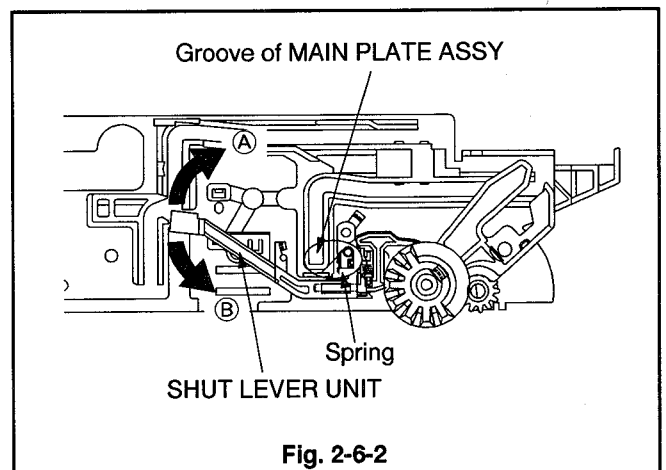

Fig. 2-6-2
- 4 Insert the spring of the SHUT LEVER UNIT under groove of the MAIN PLATE ASSY shown in Fig. 2-6-2.